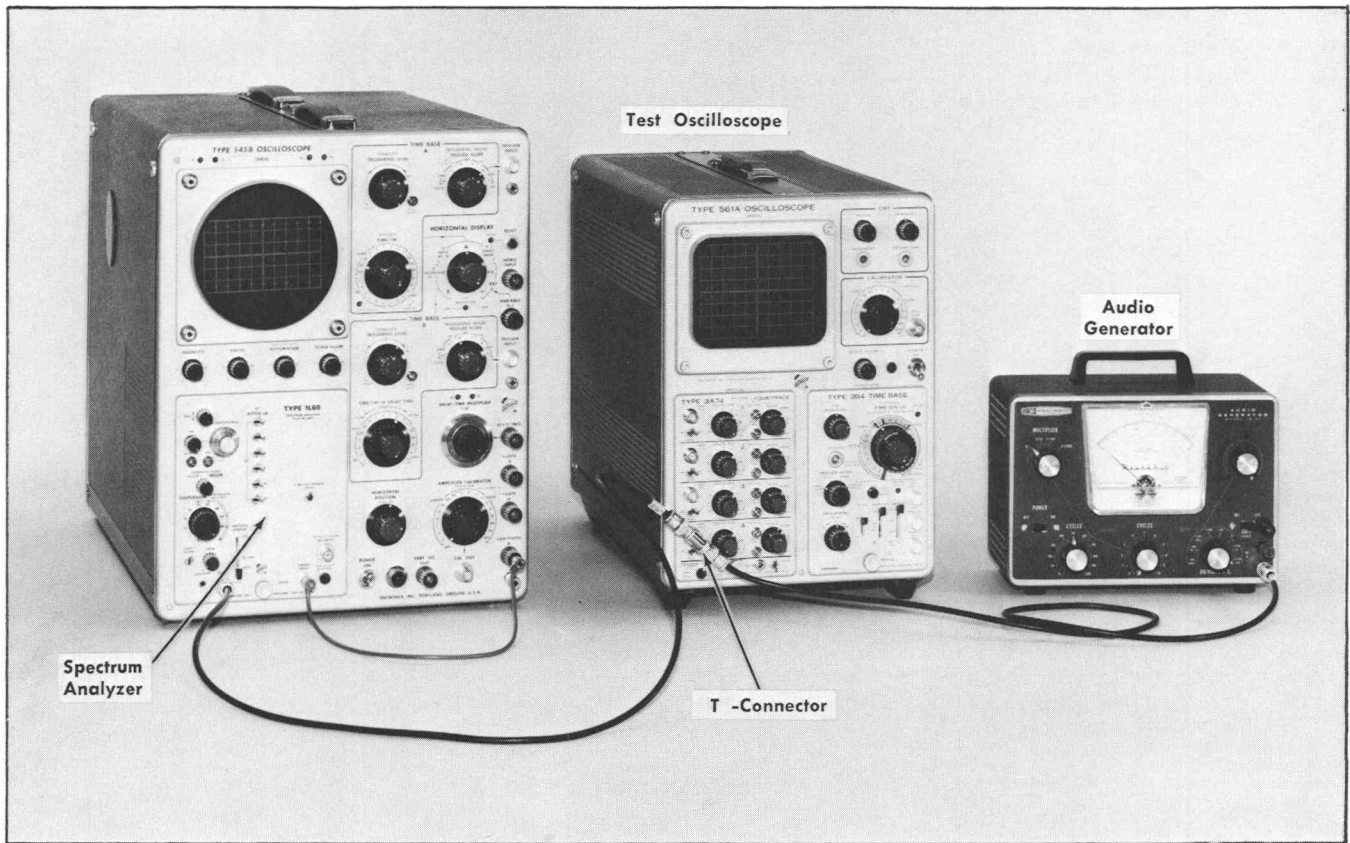

Fig. 6-23. Setup for checking VIDEO INPUT Frequency Response (Step 17).
- a. Connect the equipment as shown in Fig. 6-23.